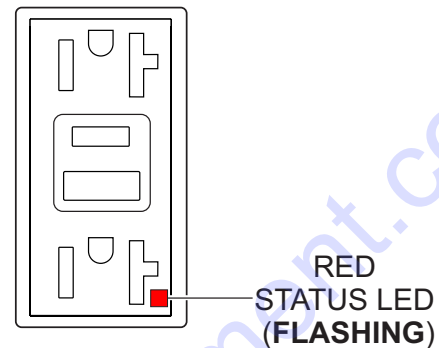

Figure 73. GFCI Receptacle (Red Flashing LED)
6. If the status LED (Figure 73) is **flashing (RED)**, **DO NOT** use the GFCI receptacle. Replace it immediately.